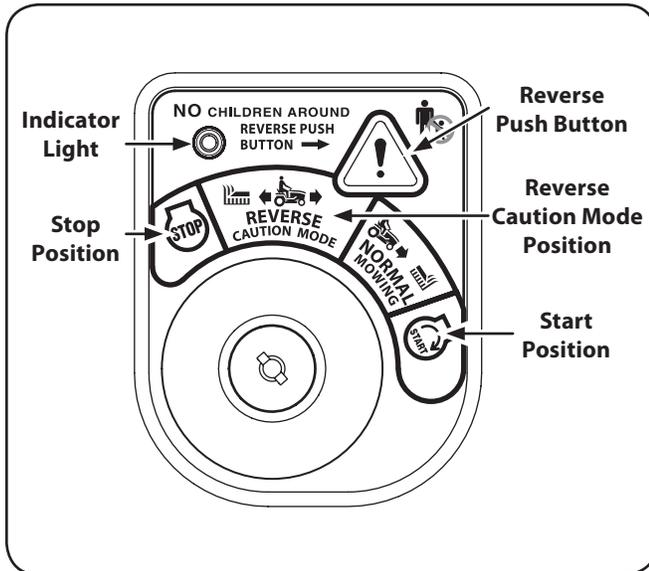

Figure 5-1
2. Turn the key from the NORMAL MOWING  (Green) position to the REVERSE CAUTION MODE  (Yellow) position of the key switch module. See Figure 5-1.
3. Press the REVERSE PUSH BUTTON  at the top, right corner of the key switch module. The red indicator light at the top, left corner of the key switch module will be ON while activated. See Figure 5-1.